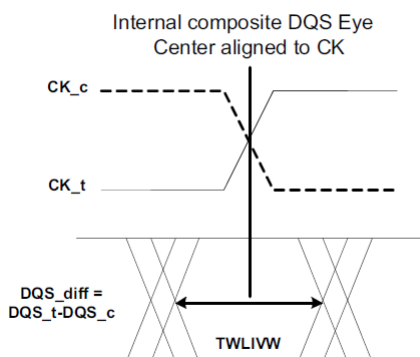

Figure 25. DQS\_t/DQS\_c to CK\_t/CK\_c timings at the DRAM pins referenced from the internal latch
- 28) tWLIWW is defined in a similar manner to tdlVW\_Total, except that here it is a DQS input valid window with respect to CK. This would need to account for all VT (voltage and temperature) drift terms between CK and DQS within the DRAM that affect the write-leveling input valid window. The DQS input mask for timing with respect to CK is shown in Figure 25. The "total" mask (TWLIWW) defines the time the input signal must not encroach in order for the DQS input to be successfully captured by CK with a BER of lower than tbd. The mask is a receiver property and it is not the valid data-eye.